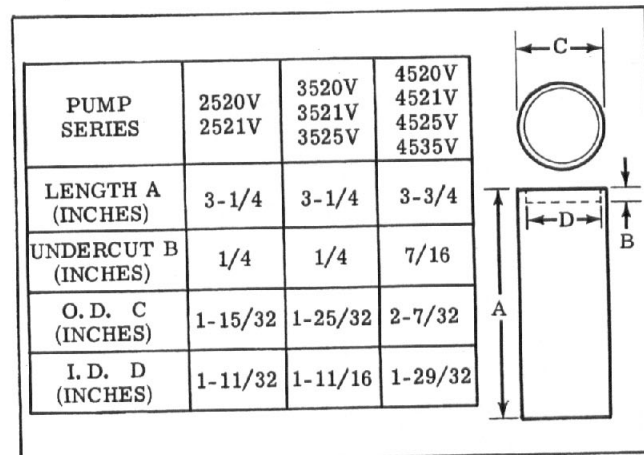

Figure 8 - Shaft Seal Driver
The driver can be made from tubular stock machined to dimensions shown in Figure 8. The recess in the tool will be deep enough so uniform pressure is applied to the recessed area in the seal channel, rather than on the lip of the seal. The inside diameter of the tool will not interfere with the spring around the lip of the seal.
3. Basic Pump - Soak a new shaft wiper in hydraulic fluid and install the wiper and seal. Use the seal installing tool (Figure 8) to prevent damaging the seal. Be certain the seal O.D. is below the chamfer in the body.